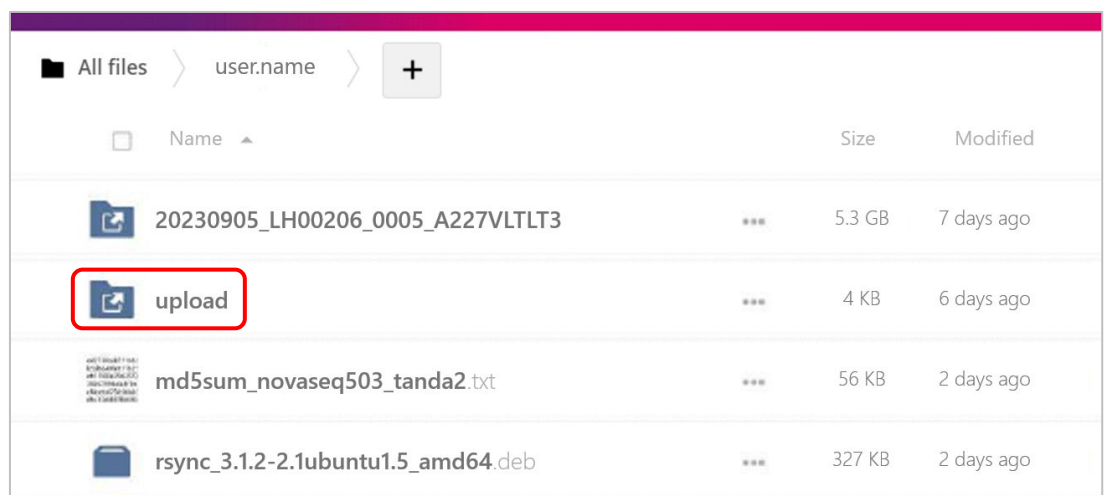

Figure 27. User folder structure.
**03** To load the files, enter the folder called Data (“*Datos*”) within the user folder and upload the necessary files indicated below to the “*Upload*” folder (Figure 27):